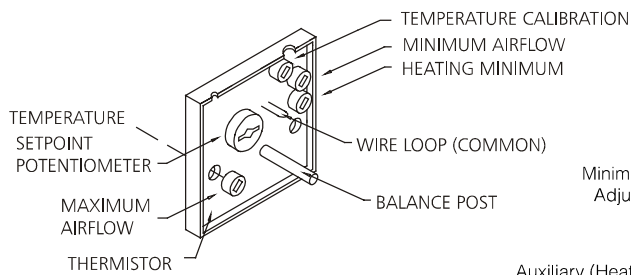

Figure 1a, 2" Square Thermostat
1.1 Thermostats (Figures 1a and 1b)
1.1.1 2" Thermostat (Figure 1a)
- d. **Minimum Flow Adjustment** – White potentiometer on printed circuit board (see Figure 1a). CW rotation increases minimum CFM.
- e. **Maximum Flow Adjustment** – White potentiometer on printed circuit board (see Figure 1a). CW rotation increases maximum CFM.
- f. **Auxiliary (Heating) Minimum Adjustment** – White potentiometer (see Figure 1a) allowing increased flow when heat is energized. CW rotation increases heating CFM. Should always be turned fully clockwise if heating minimum feature is not used.